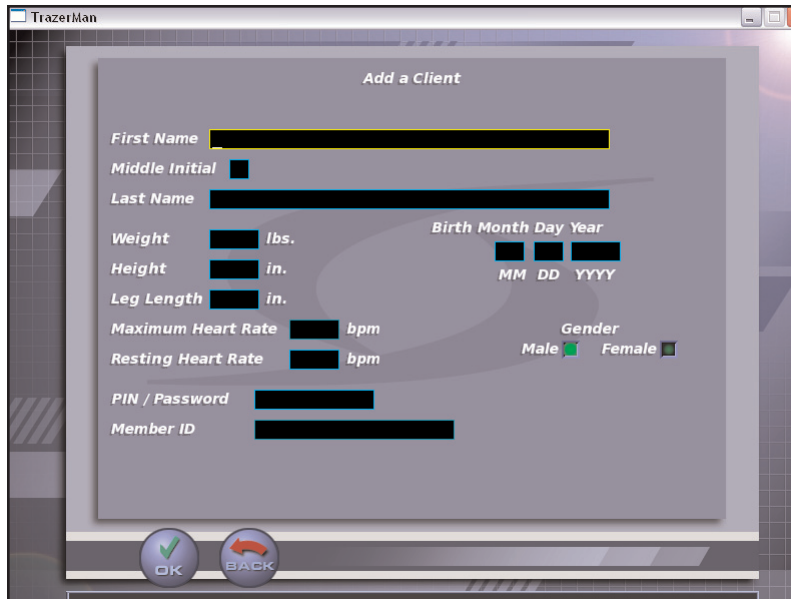

Figure 5
2. Enter clients *First name*, *Middle initial* and *Last name*. Press the **TAB** key to enter the next field. See Figure 5.